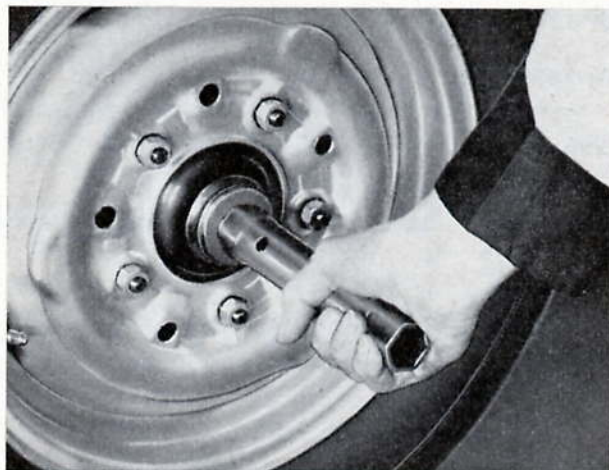

Fig. K.9. Final tightening of the hub nut by hand
6. Slacken the nut and remove the bar, then gripping the wrench by hand retighten the nut (Fig. K.9).